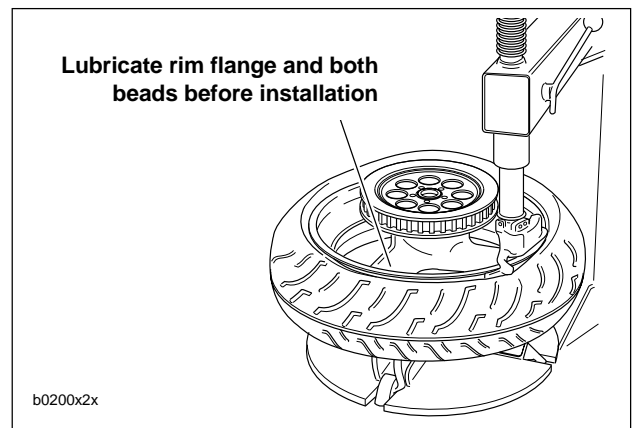

Figure 2-28. Starting Bead on Rim
4. See Figure 2-28. Starting at the valve stem, start first bead into the rim well using a bead breaker machine. If no machine is available, work bead on as far as possible by hand. Use a tire tool to pry the remaining bead over rim flange.